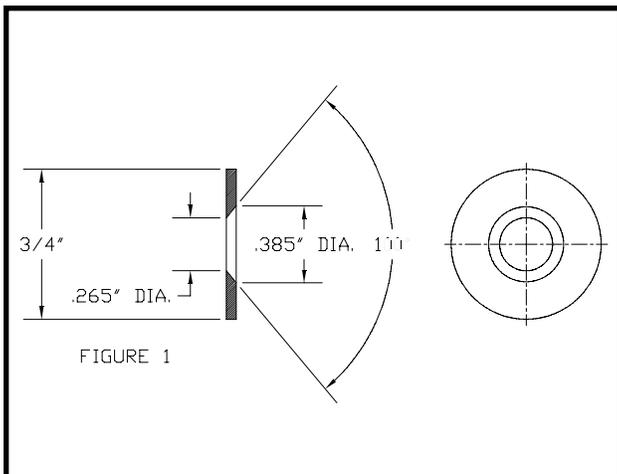

FIGURE 1
- B. CHAMFER WITH 100 DEGREE CHAMFER TOOL UNTIL LARGE DIAMETER OF CHAMFER EQUALS .385" OR UNTIL FLAT HEAD SCREWS ARE FLUSH WITH WASHER. (SEE FIGURE 1)